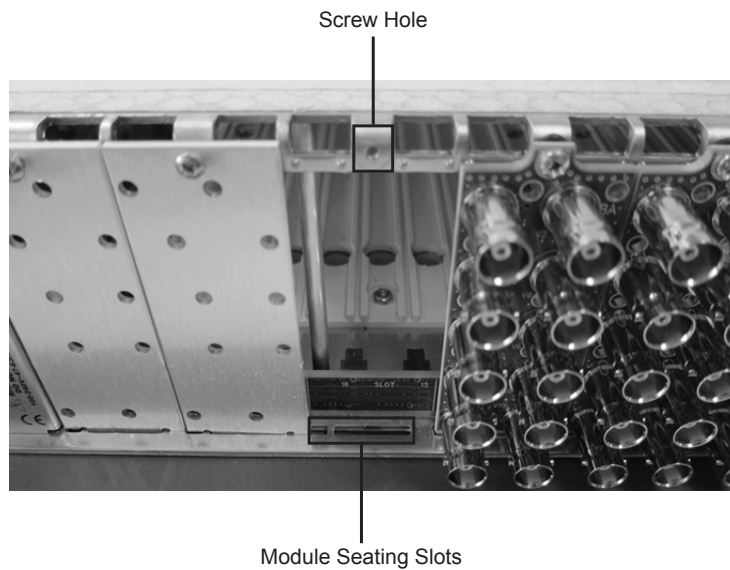

Figure 2.4 Rear Module Installation in an openGear Frame (One Blank Plate Removed)
3. Seat the bottom of the rear module in the seating slot at the base of the backplane of the frame. (**Figure 2.4**)